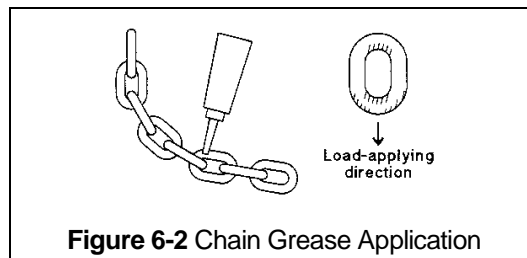

Figure 6-2 Chain Grease Application
6.2.3 Apply KITO lubricating grease (Part No. ER1BS1951) or an equivalent to industrial general lithium grease, NLGI No. 0, to the bearing surfaces of the load chain links as indicated by the shaded areas in Figure 6-2. Also apply the grease to the areas of the load chain (shaded areas in Figure 6-2) that contact the load sheave. Ensure that the grease is applied to the contact areas in the load sheave pockets.